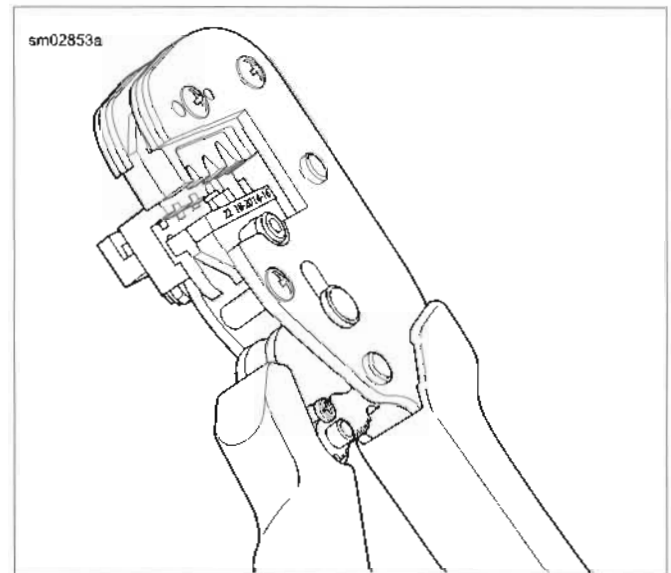

Figure A-52. Open Terminal Crimper (HD-48119) at 45 Degrees
3. See Figure A-52. Hold fully open tool at approximately 45 degrees.